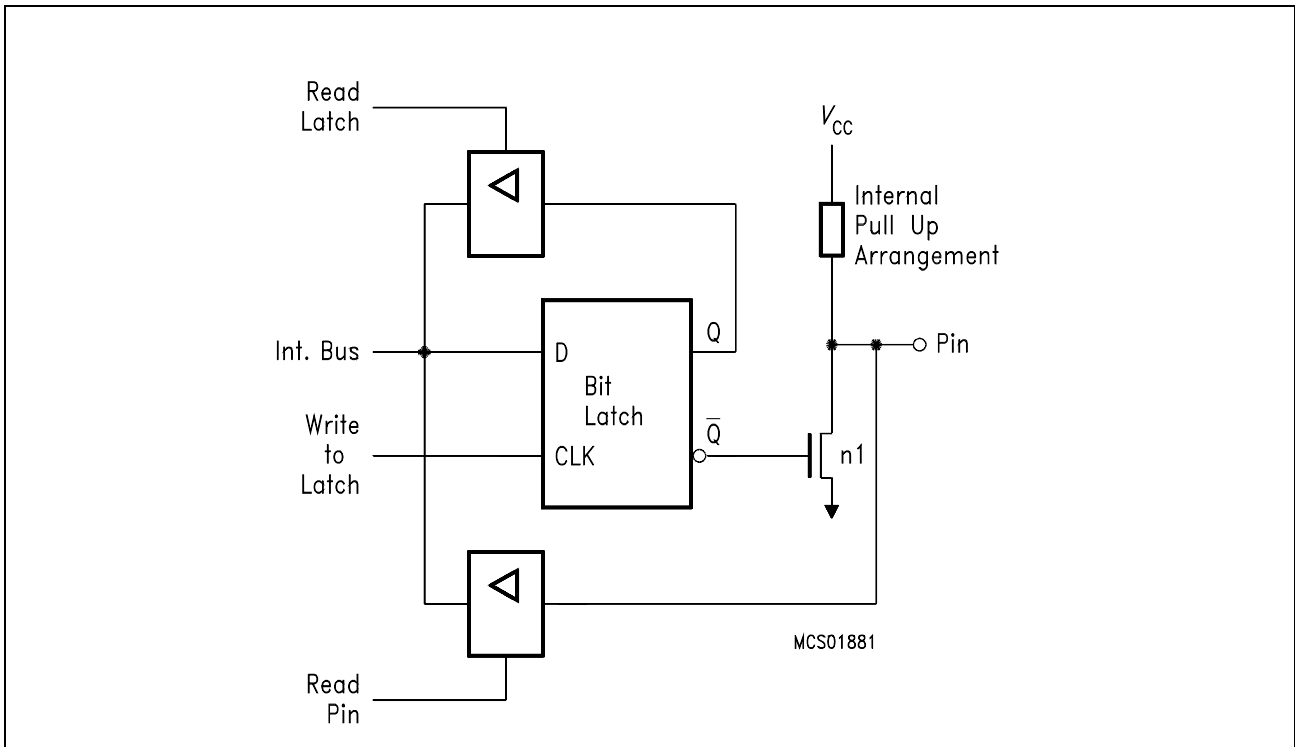
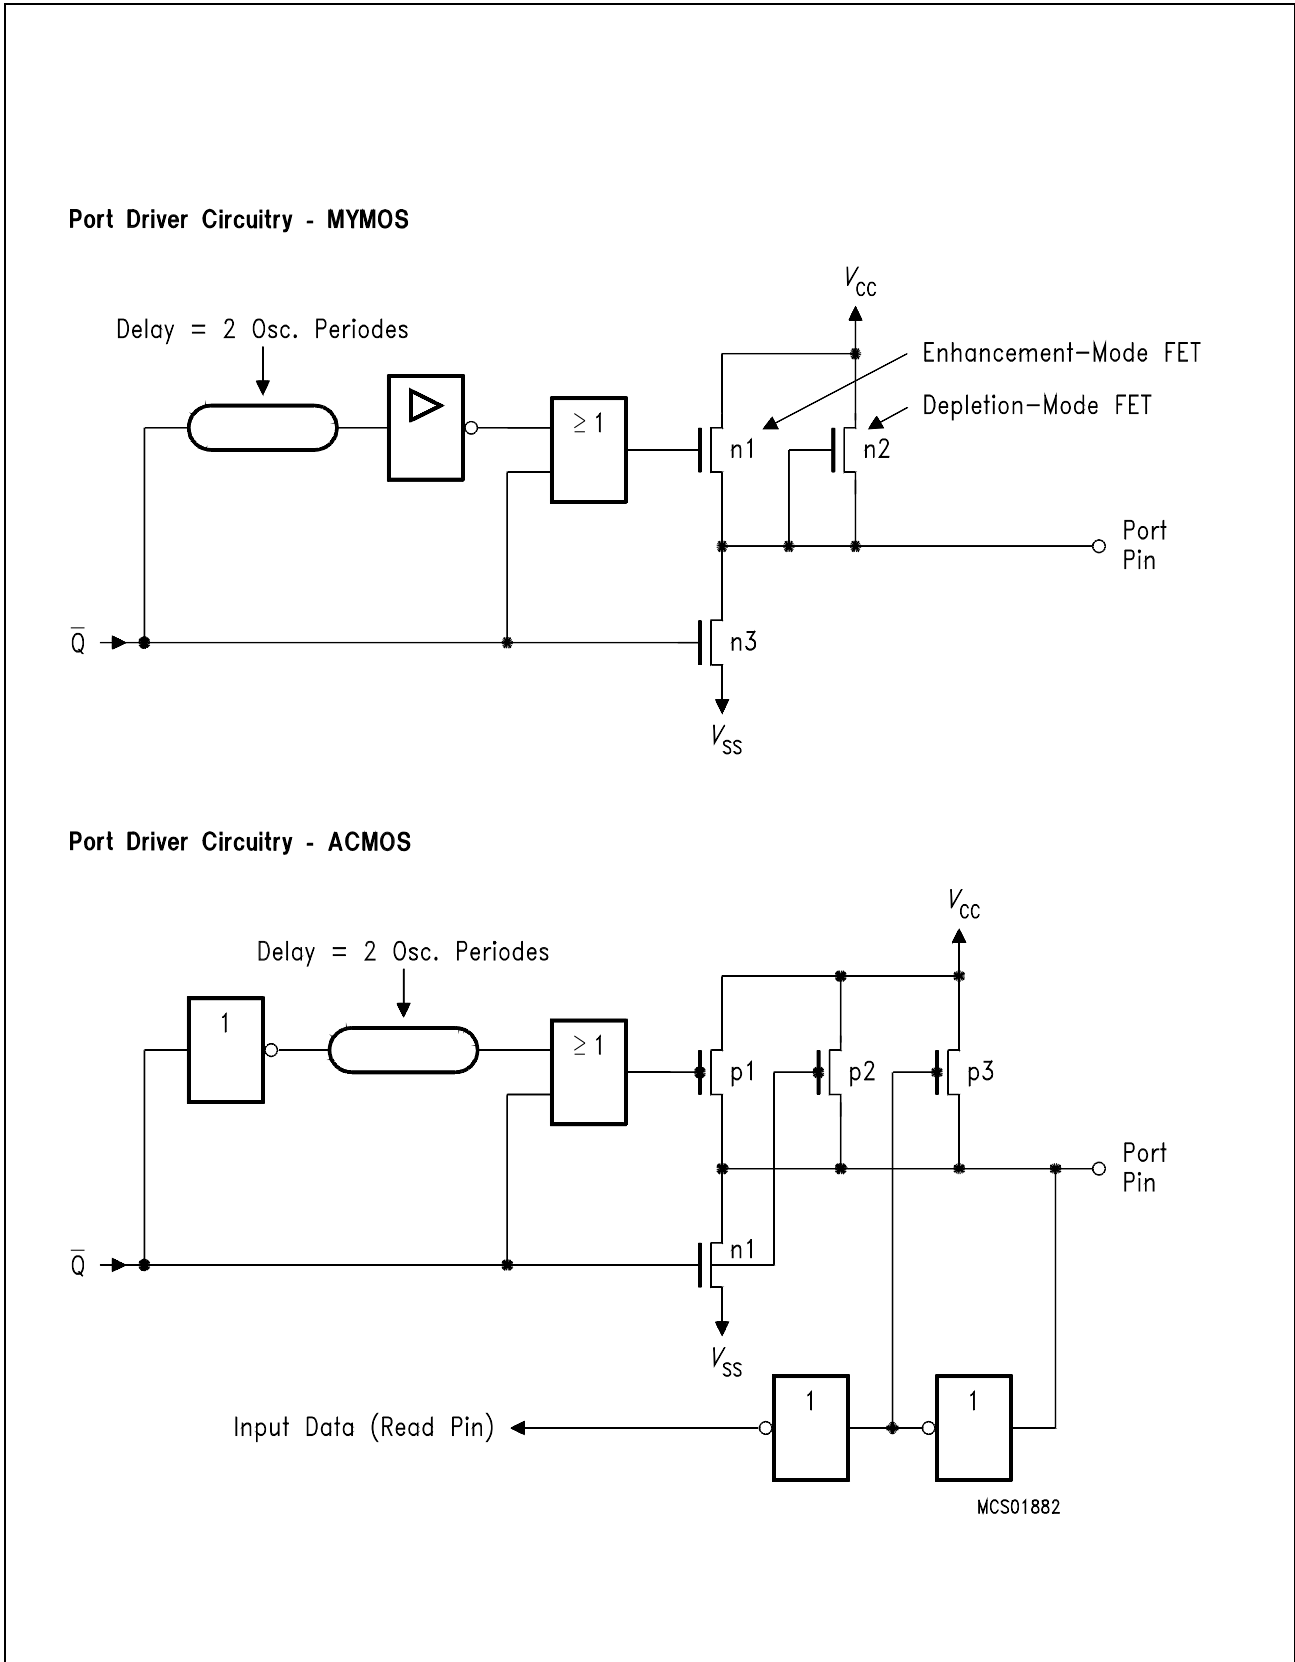

Figure 7-2
Figure 7-3
Port 1 through 5 output drivers have internal pullup FET's (**see figure 7-2**). Each I/O line can be used independently as an input or output. To be used as an input, the port bit must contain a one (1) (that means for **figure 7-2**: $\bar{Q} = 0$), which turns off the output driver FET n1. Then, for ports 1 through 5, the pin is pulled high by the internal pullups, but can be pulled low by an external source. When externally pulled low the port pins source current (I_{IL} or I_{TL}). For this reason these ports are sometimes called "quasi-bidirectional".
In fact, the pullups mentioned before and included in **figure 7-2** are pullup arrangements as shown in **figure 7-3**. These pullup arrangements are realized differently in the MYMOS and ACMOS versions. In the next two sections both versions are discussed separately.
The output driver circuitry of the MYMOS version (**figure 7-3**) consists of two pullup FETs (pullup arrangements) and one pulldown FET:
The output driver circuitry of the ACMOS version (**figure 7-3**) is realized by three pullup FETs (pullup arrangement) and one pulldown FET: